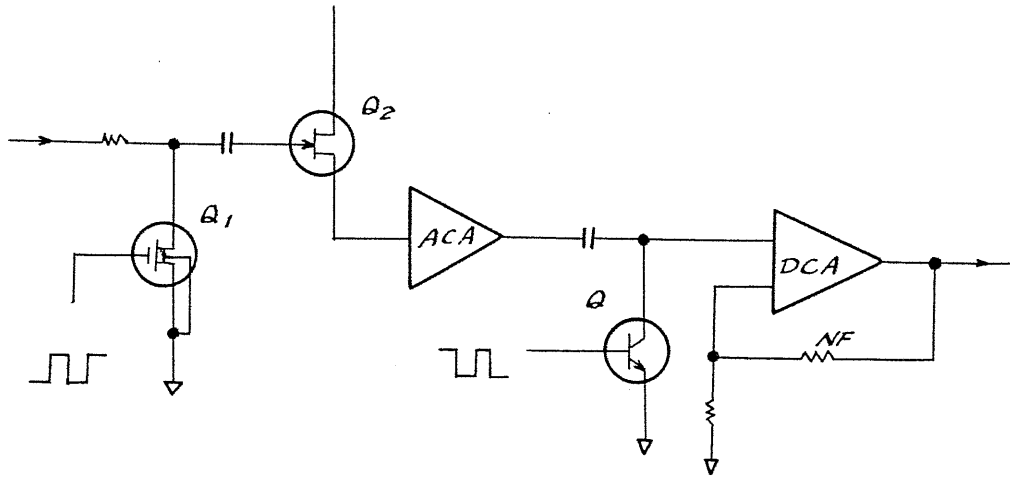
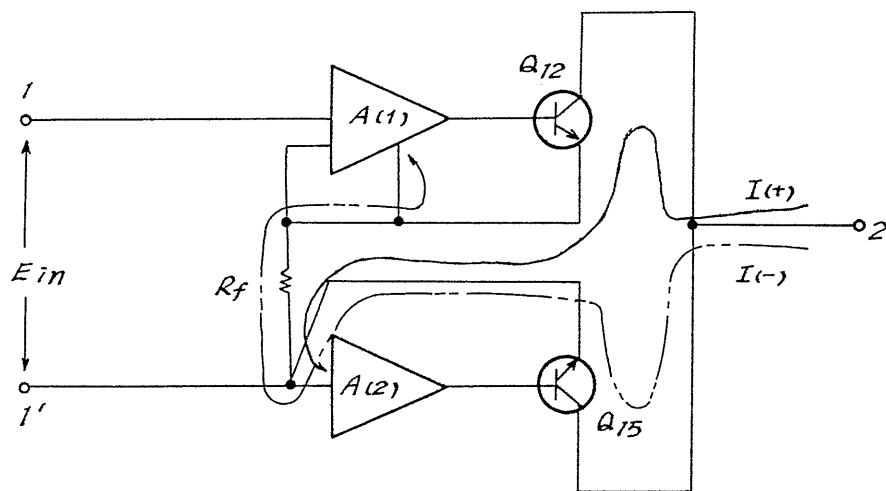

Fig. 4-2
Fig. 4-3
The circuitry is composed as shown in Fig. 4-3 to take out the above-mentioned DC amplifier output as a constant current source. A (1) represents the entire amplifier shown in Fig. 4-2; A (2), the amplifier using Q_{16} .